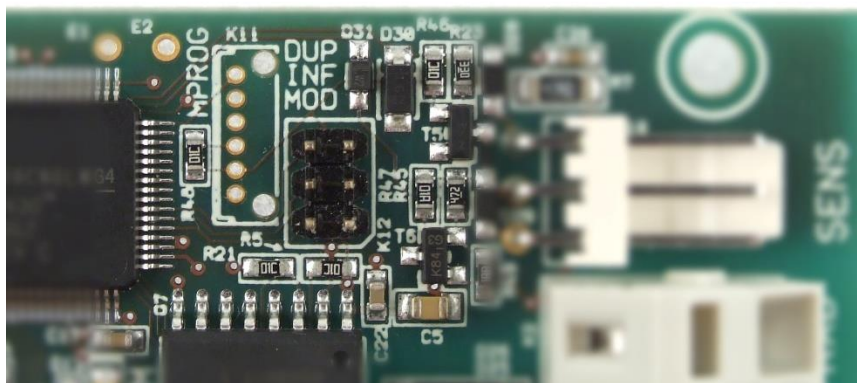

*Fig. 8 – connector for the thermometer (here: Quido ETH 4/4)*
- 3) If your Quido enables connection of a thermometer, the board includes a connector (with three terminals - see Fig. 8) labelled SENSOR (or TEMP). Here you can connect the temperature sensor. (The thermometer needs to be connected only if you want to measure temperature or use one of the functions of temperature monitoring.)5